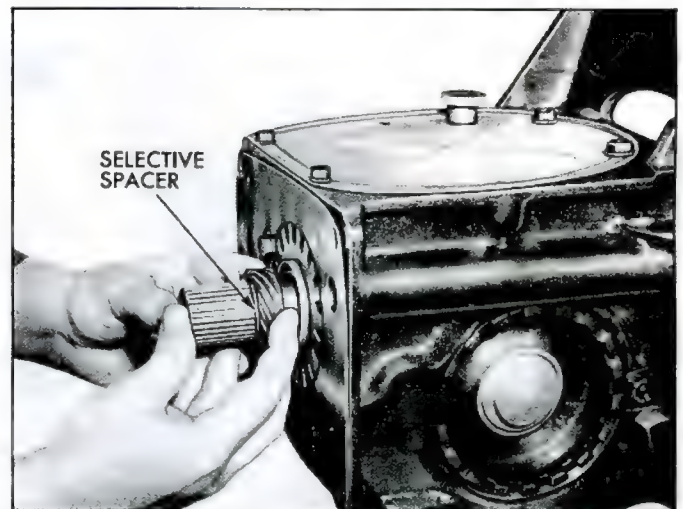

Fig. 7—Removing Governor Drive Gear and Spacers
5. Remove transmission to differential carrier gasket and remove the governor gear and selective spacers from the pinion shaft of the differential carrier (fig. 7).